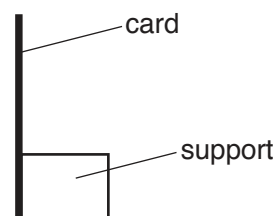

Fig. 3.2
- (v) Screen. A white sheet of stiff card, approximately 150 mm × 150 mm and fixed to a wooden support, is suitable (see Fig. 3.2).